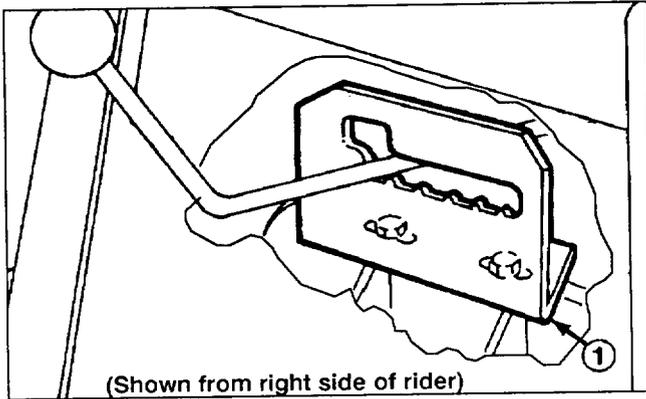

Figure 32
2. Loosen (2) capscrews mounting gear shift guide to transmission (Fig. 32).